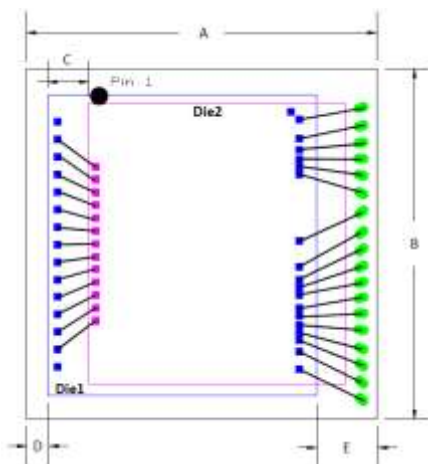

Fig. 2. Wiring diagram of an electronic package.
- Die placement is one critical characteristic requirement needed to meet during die attach process, with the only reference used during the process is the wiring diagram given in Fig. 2